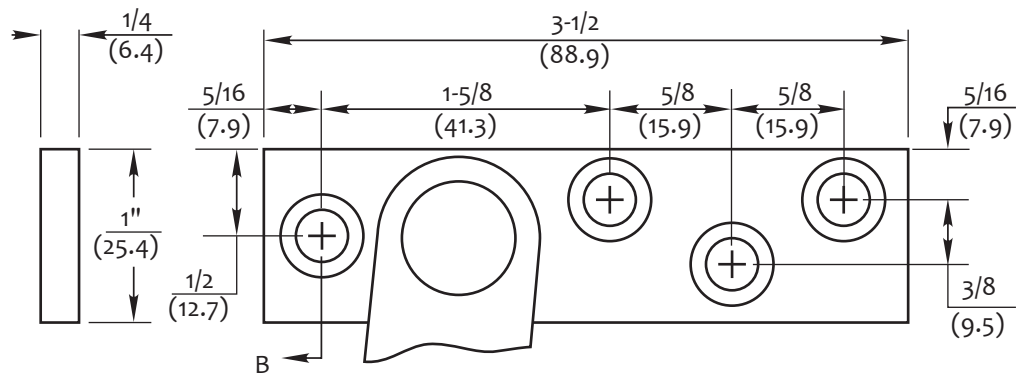

Figure 2 Jamb bracket screw hole dimensions
2. Drill and install channel (Figure 2)
Note: The channel installation requires two reinforcement plates measuring 2-1/2" wide and 3/16" thick, matching the full door width, and shall be reinforced as shown. (Figure 2)